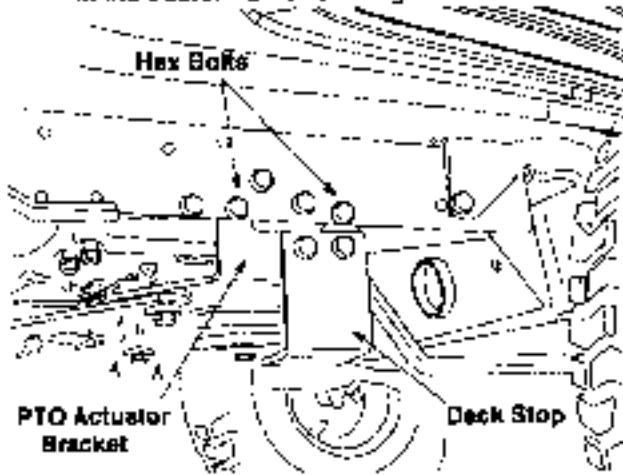

Figure 19
- Remove the two hex bolts (from both sides of the tractor) that affix the PTO actuator bracket to the tractor frame. See Figure 19.